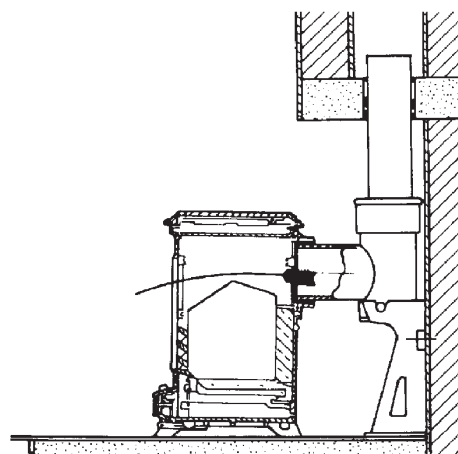

Fig.8
- Insert flexible brush provided through appliance front to clean stove flueway, Brush deposits into firebox. Fig. 8.